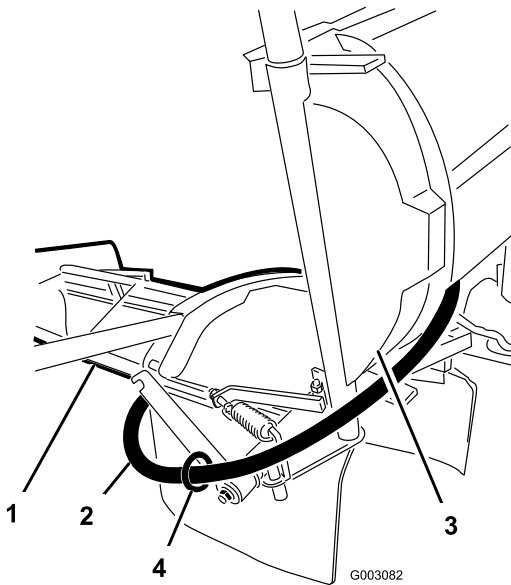

Figure 13
1. Route the extension boom hose through the retainer ring at pivot joint on the center boom. Be sure to leave enough length in the hoses to allow for the extension boom to be folded into the storage position without kinking (Figure 13).